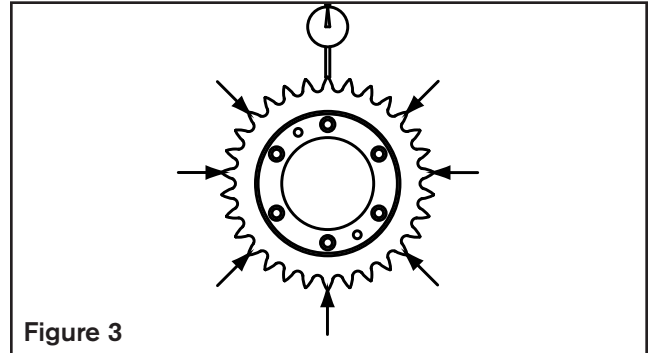

Figure 3
2. Mount a dial indicator so that the ring gear can be rotated past it as shown in Figure 3. Verify that the radial variance in the ring gear mounting surface (ID or OD depending on internal or external teeth) meets the requirements of ± 0.02 mm [± 0.0008 in] as shown in Figures 1 & 2. Repeat the procedure with the dial indicator measuring the variance in the surface with the mounting holes tangent to the plane of rotation to verify it meets the requirements of ± 0.02 mm [± 0.0008 in] as shown in Figures 2. Mark the high point in the surfaces as they are rotated. If either of these variances is out of specification, attempt to correct it by adjusting the bearings or other ring gear support structures. If either variance cannot be brought into specifications but is close, it may be corrected by shimming between the ring gear and mounting surface, if the mounting surface variance is only slight out of specifications.
2. Measure the ring gear tooth peak variance with a dial indicator at multiple points around the ring gear to ensure that is concentric to the axis of rotation with variance less than ± 0.02 mm [0.0008 in] as shown in Figure 3.